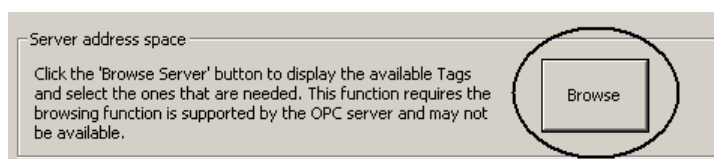

Fig 32 Selecting the OPC server browsing
- Select the 'Browse' button (Fig 32) in the 'Server address space' section of the form